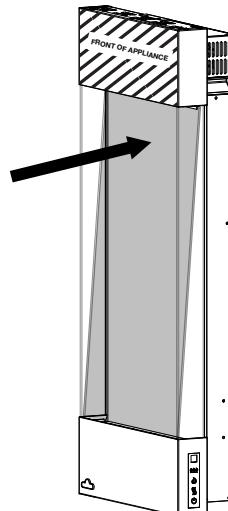

Fig. 3
3. Push the top of the glass against the top of the plastic panel (**Fig. 3**).
2. For ease of removal, use the bracket hooks to reach behind the glass and pull it forward (**Fig. 3**).